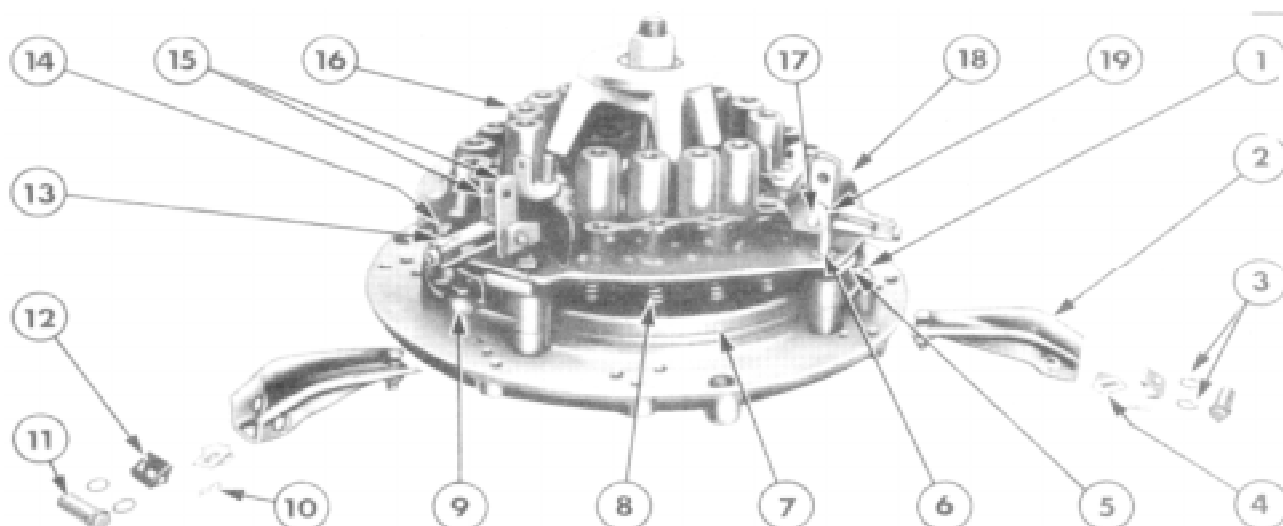

Figure 12
9. Withdraw the split pins and remove the release lever retaining clip shims and clips, Figure 12.